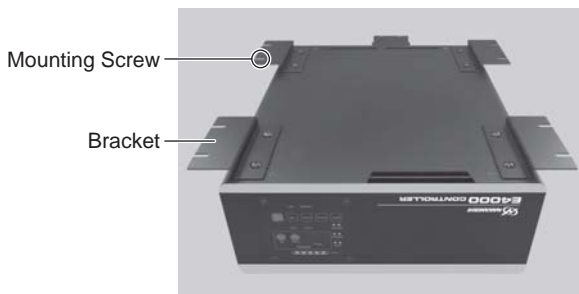

Fig. 10
- The Bracket can be installed on the " (1) Bottom Mounting (Fig. 10, 11) " and " (2) Side Surface Mounting (Fig. 12, 13) " of the CONTROLLER.
- ② Install the Brackets (4pcs.) to the bottom of CONTROLLER by using removed Mounting Screws (8pcs.) (Fig. 10).